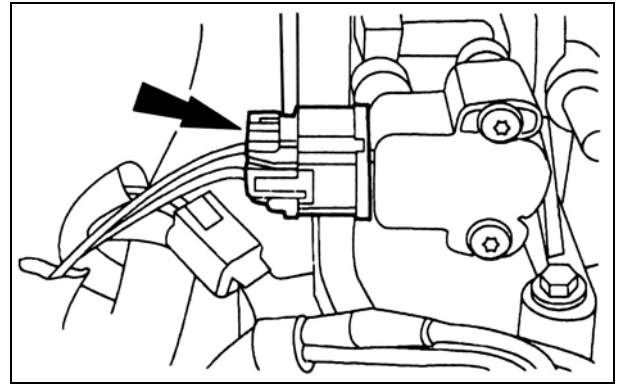

Figure 12
17. Disconnect the throttle position sensor electrical connector (Figure 12).